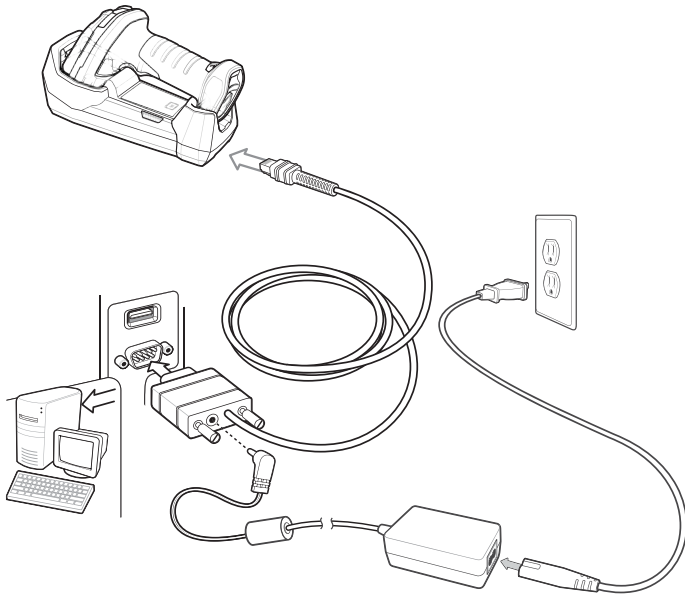

Figure 9-1 RS-232 Direct Connection to DS3678
- ✓ **NOTE** Interface cables vary depending on configuration. The connectors illustrated in Figure 9-1 are examples only. The connectors may be different from those illustrated, but the steps to connect the cradle remain the same.